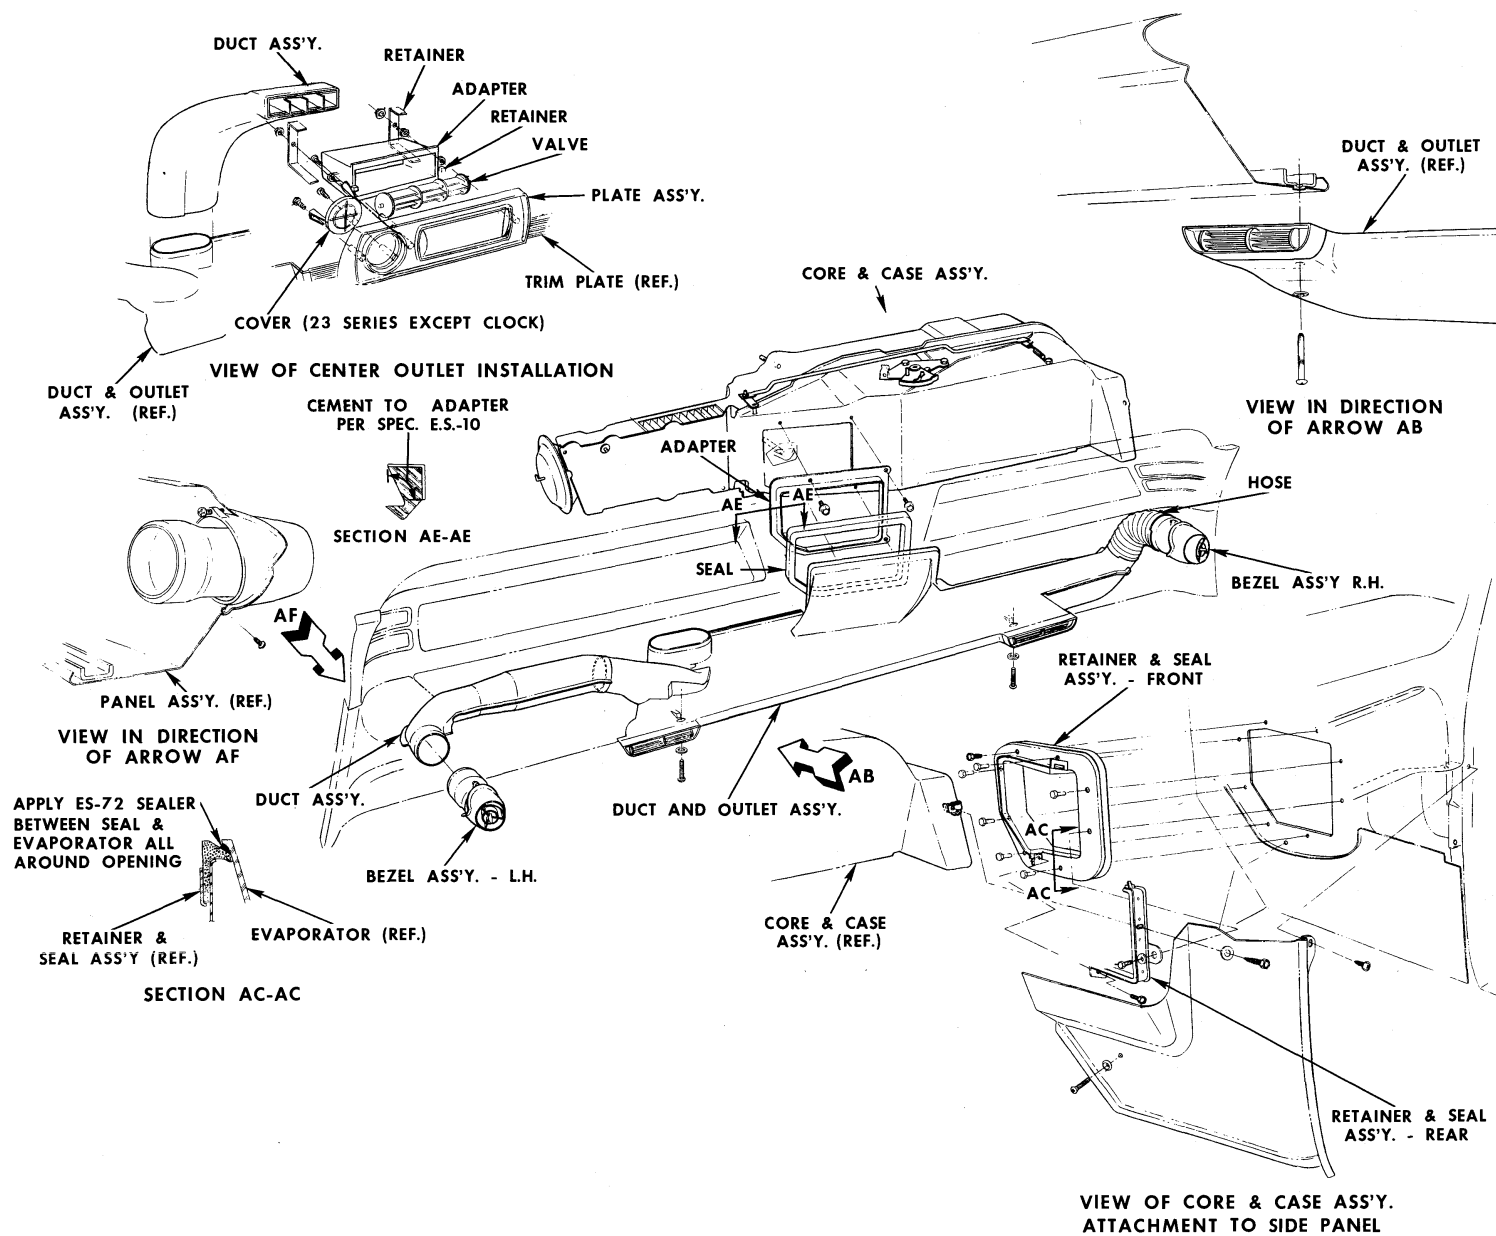

Fig. 5-42 Air System - Body Interior
2. With a daub of paint, mark relative position of diaphragm cover, jam nut and vacuum diaphragm element (Fig. 5-42).